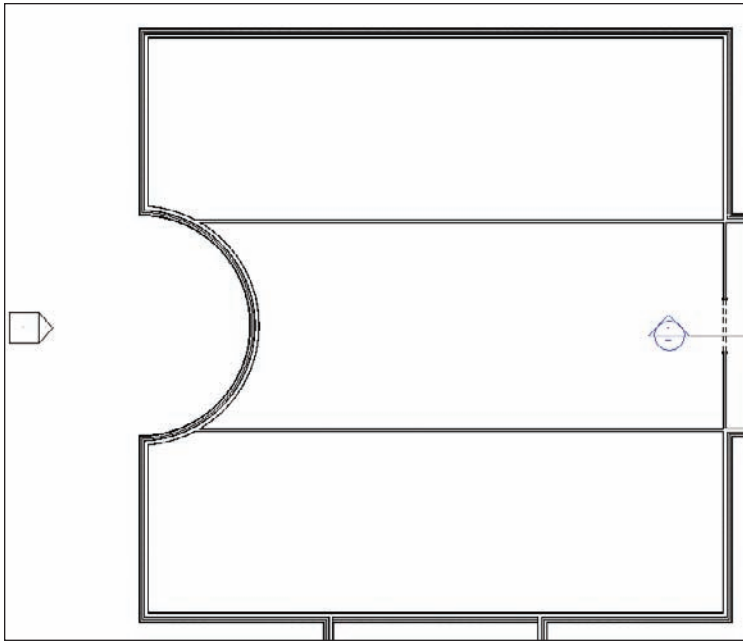

FIGURE 4.6 The radial portion of the west wing
2. Zoom in on the radial portion of the west wing, as shown in Figure 4.6.